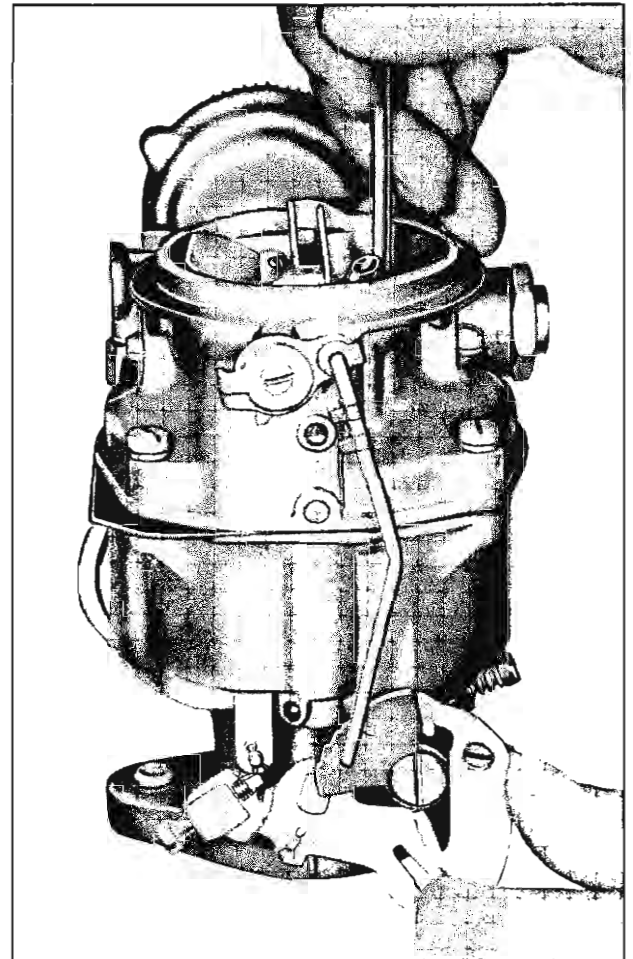

Fig. 13--Checking Unloader
- **Unloader Adjustment**—Hold throttle wide open and slide large end (.230") of gauge J-6838 between lower edge of choke valve and bore of carburetor (fig. 13). The gauge should slide freely between valve and bore. If adjustment is needed, bend tang of throttle level with Tool J-4552 to obtain necessary clearance.